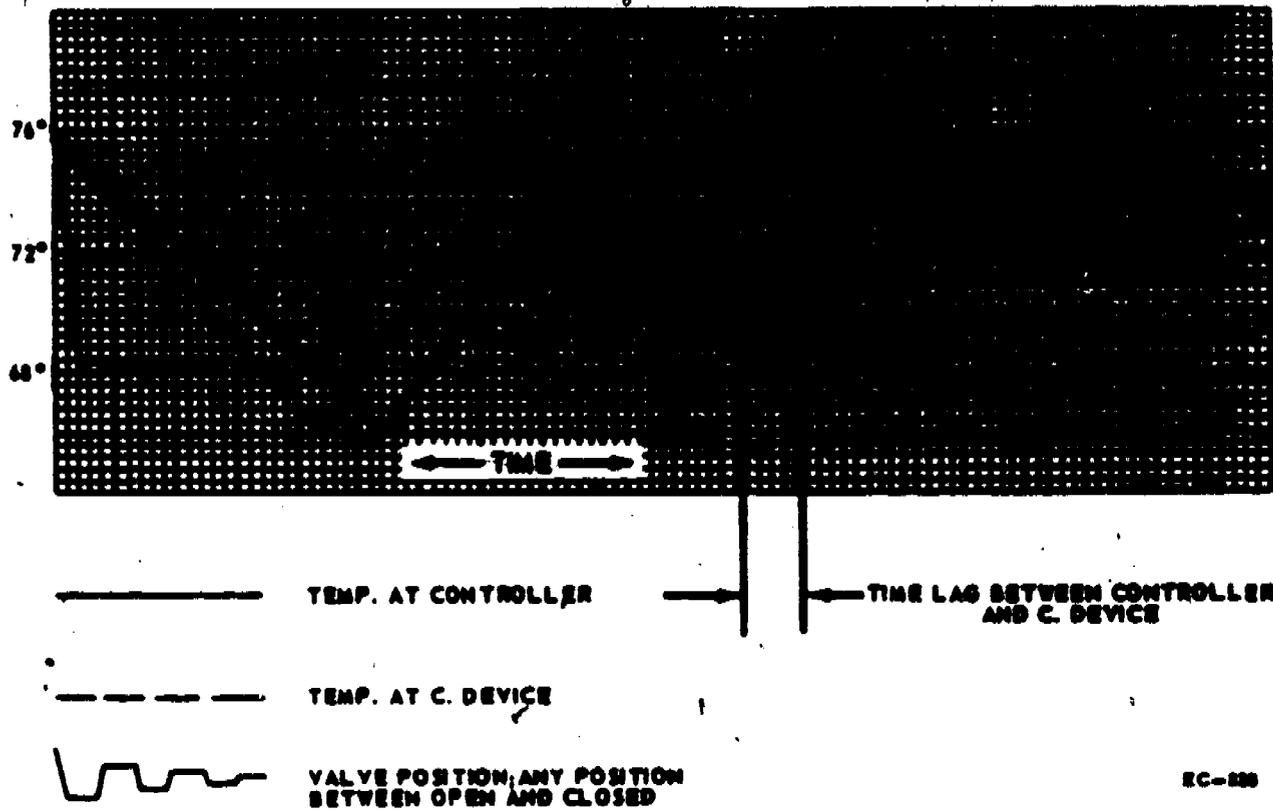

Figure 27. Floating Control Circuit Graph
2. **Floating:** The floating control circuit eliminates cycling, in that the final control element can take any position between fully open and fully closed. Overshooting and undershooting is not a problem with the floating controls, because the variable is kept within the range of the differential. A time lag still exists between the controller and the control device. - Once agent has been supplied it may take 120 seconds or more before the change produced will be sensed and reacted to by the controller. Figure 27 will illustrate the floating control circuit.